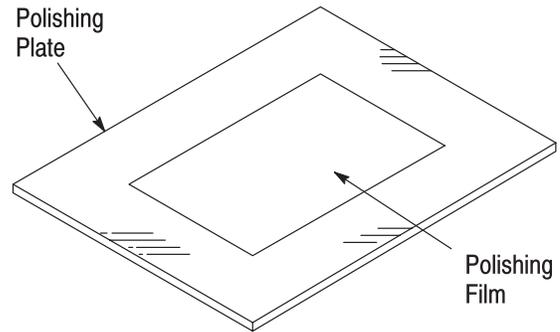

Figure 8
2. Place a sheet of 15- $\mu$ m polishing film on the polishing plate. See Figure 8.